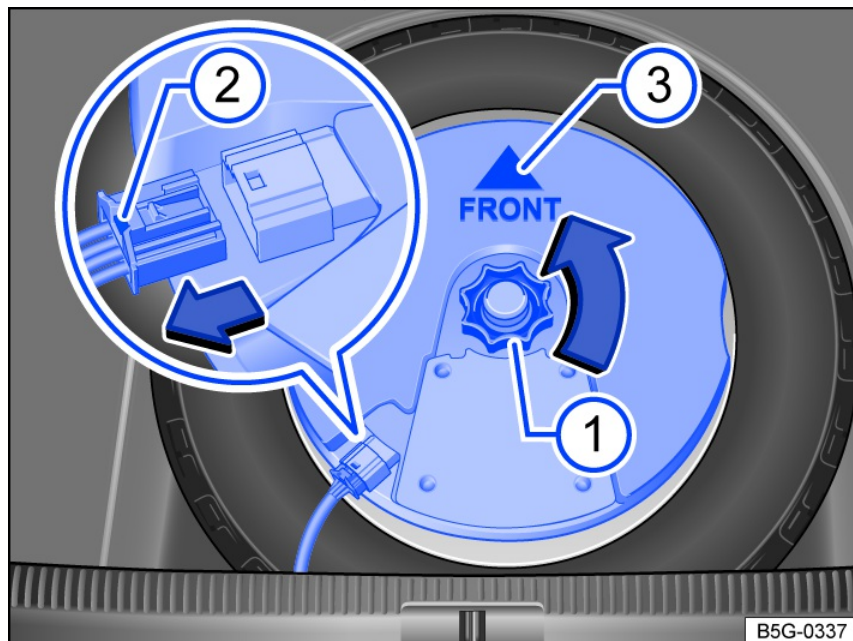

Fig. 213 In the luggage compartment: removing the subwoofer (version 2).
- Remove the handwheel *fig. 213* (1) in the direction of the arrow.
- To release the connector, press the locking mechanism on the end of the connector *fig. 213* (2).
- Place the subwoofer carefully in the rim well. The point of the “FRONT” *fig. 213* (3) arrow symbol on the subwoofer must face forward.
- Insert the connector until you hear the locking mechanism *fig. 213* (2) lock into place.
- Turn the handwheel *fig. 213* (1) on the threaded pin in the opposite direction to the arrow until the subwoofer is securely fastened.